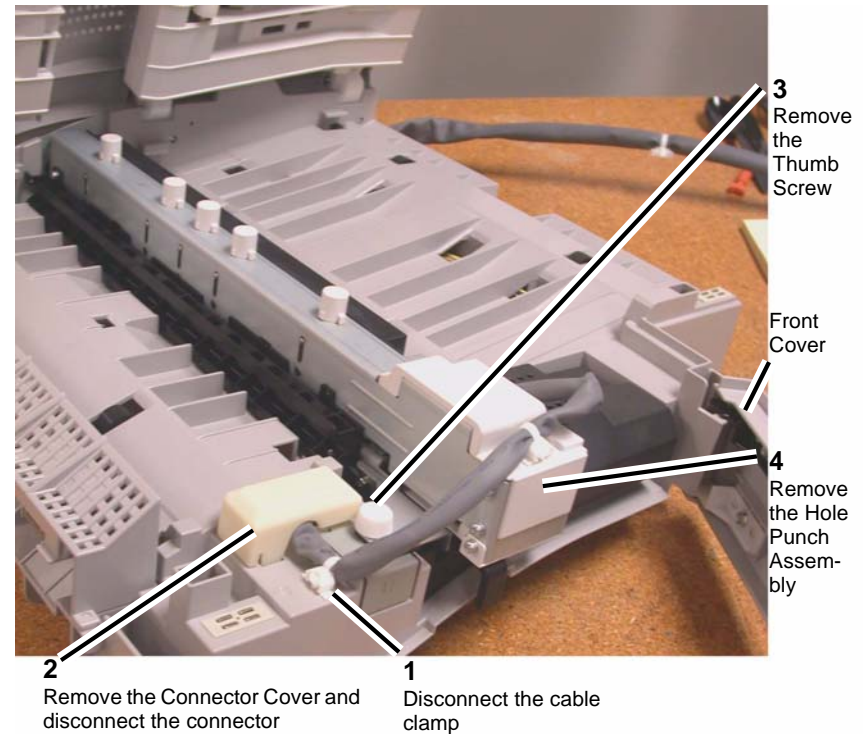

Figure 1 Removing the Hole Punch Assembly
4. Remove the Hole Punch Assembly (Figure 1).